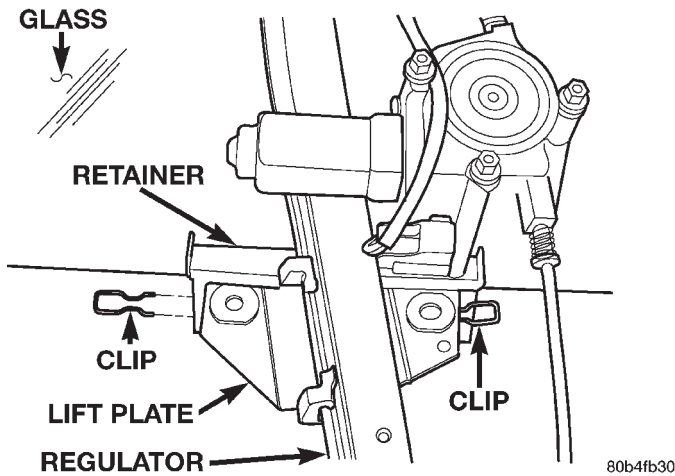

Fig. 46 Window Regulator Retainer Clips
- (1) Remove door trim panel and waterdam. Disconnect the speaker harness and power window harness, if equipped. If necessary, refer to removal procedure.
- (2) Lower window glass.
- (3) Pull run weatherstrip from fixed glass.
- (4) Remove fasteners retaining fixed glass module.
- (5) Remove the fixed glass module.
- (6) Raise the door glass and support.
- (7) Remove the window clips retaining regulator (Fig. 46).
- (8) Remove the door glass.